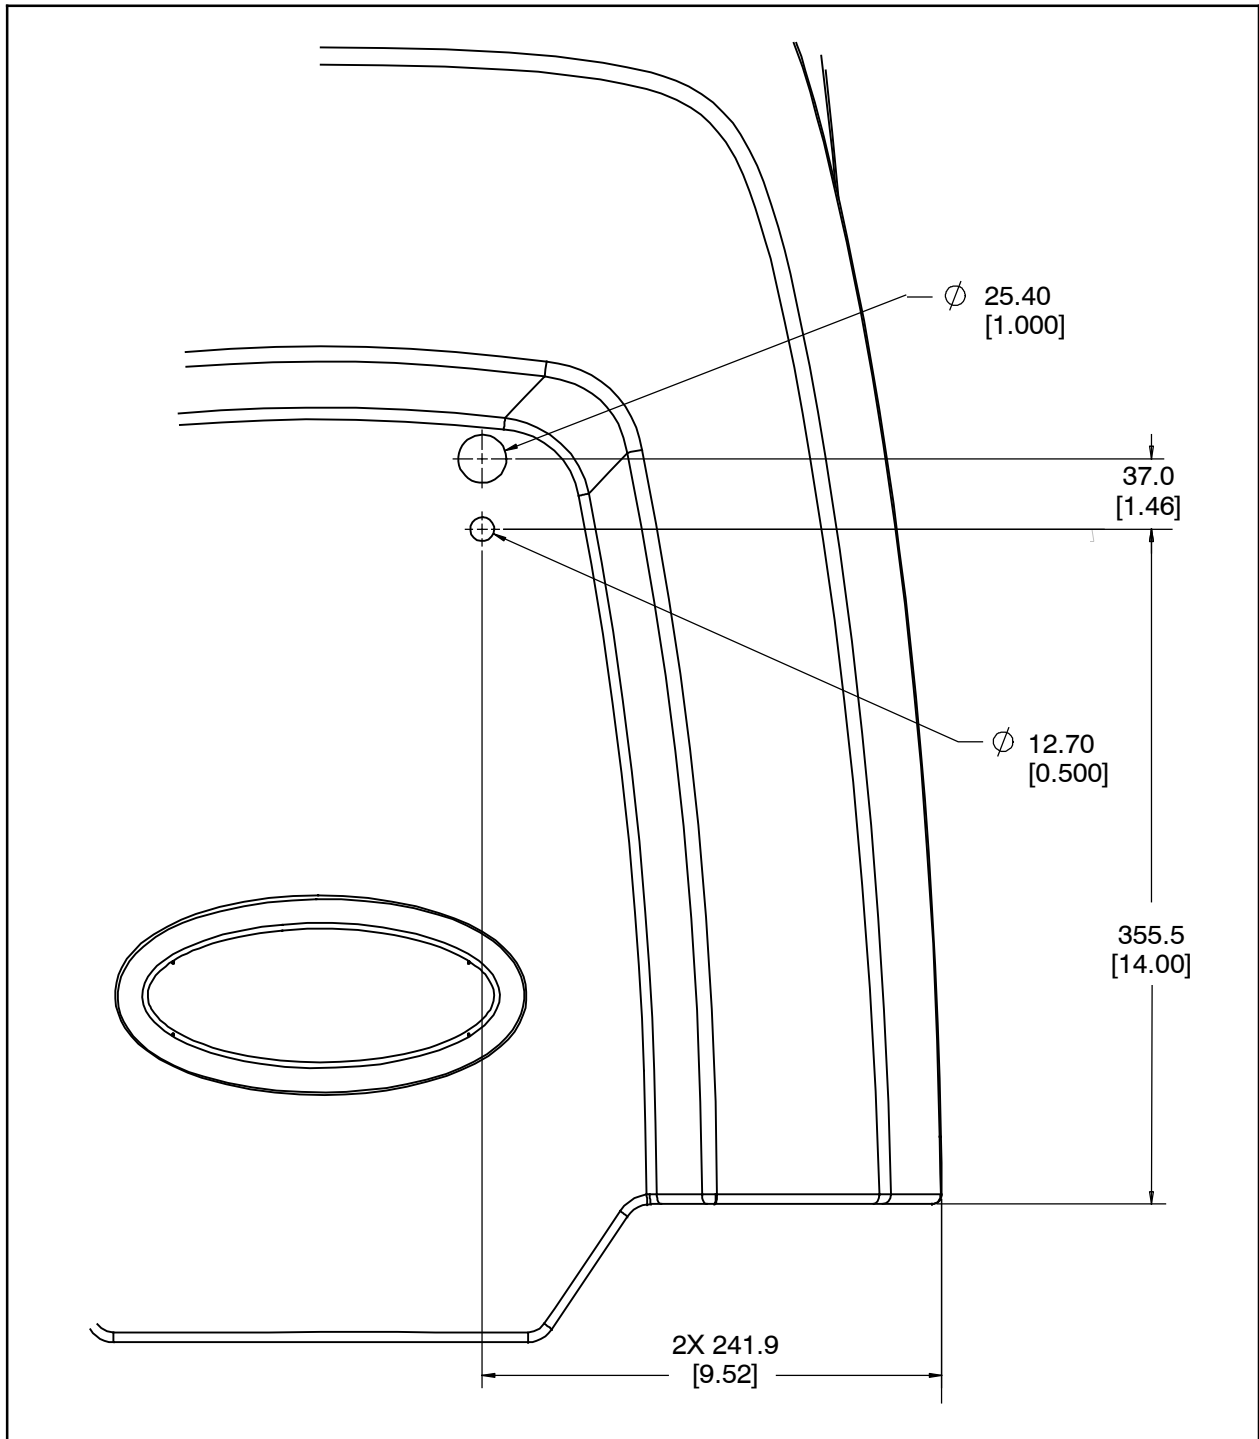
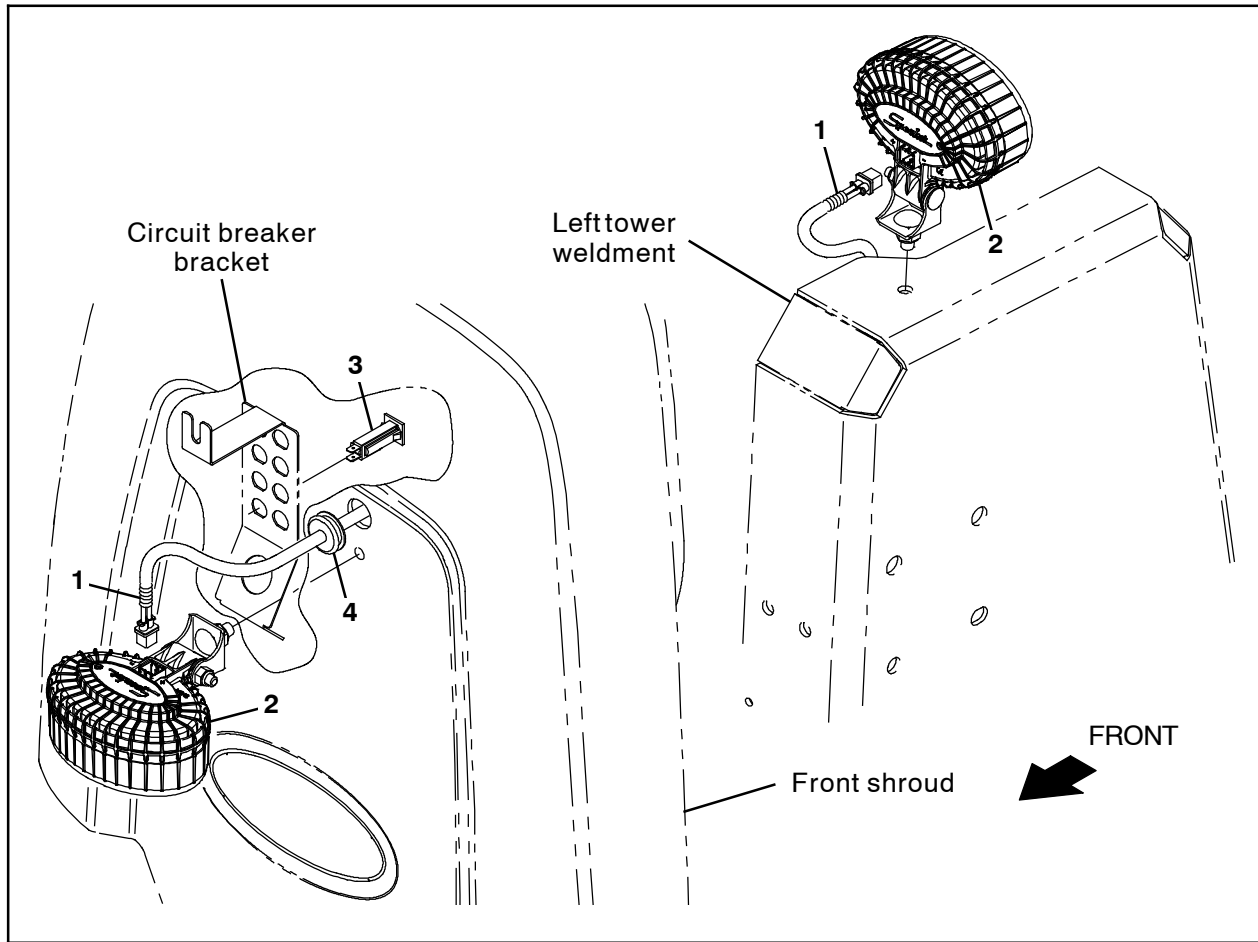

FIG. 3
FIG. 4
1. Remove the M10 hex nut from one blue spot light (2) and use the M10 hex nut to mount the blue spot light onto the left tower weldment. (Fig. 4)
2. Connect a blue light harness (1) to the blue spot light (2) installed onto the left tower weldment in the previous step. (Fig. 4)
3. Route the blue light harness (1) connected to the blue spot light (2) in the previous step to the electrical compartment near the rear breaker bracket and connect the light harness to the main wire harness.
4. Drill a 1 in. (25.40 mm) hole and a 0.50 in. (12.70 mm) hole into the front shroud. (Fig. 3)
5. Remove the M10 hex nut from one blue spot light (2) and use the M10 hex nut to mount the blue spot light onto the front shroud. (Fig. 4)
6. Connect a blue light harness (1) to the blue spot light (2) installed onto the front shroud in the previous step. (Fig. 4)
7. Slide the grommet (4) onto the blue light harness (1) connected to the blue spot light (2) in the previous step. (Fig. 4)
8. Route the blue light harness (1) connected to the blue spot light (2) through the 1 in. (25.40 mm) hole drilled in the front shroud and connect the blue light harness to the main wire harness. (Fig. 4)
9. Insert the grommet (4) into the 1 in. (25.40 mm) hole in the front shroud. (Fig. 4)
10. Insert the 2.5- Amp circuit breaker (3) into circuit breaker location CB16 in the circuit breaker bracket. (Fig. 4)
11. Connect the main wire harness to the 2.5- Amp circuit breaker (3) installed in the previous step. (Fig. 4)